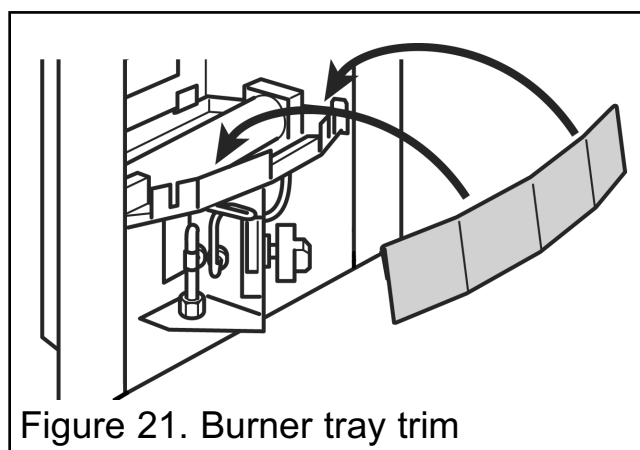

Figure 21. Burner tray trim
1. Fit the burner tray trim over the front rim of the burner tray. Push the trim fully down (See figure 21).